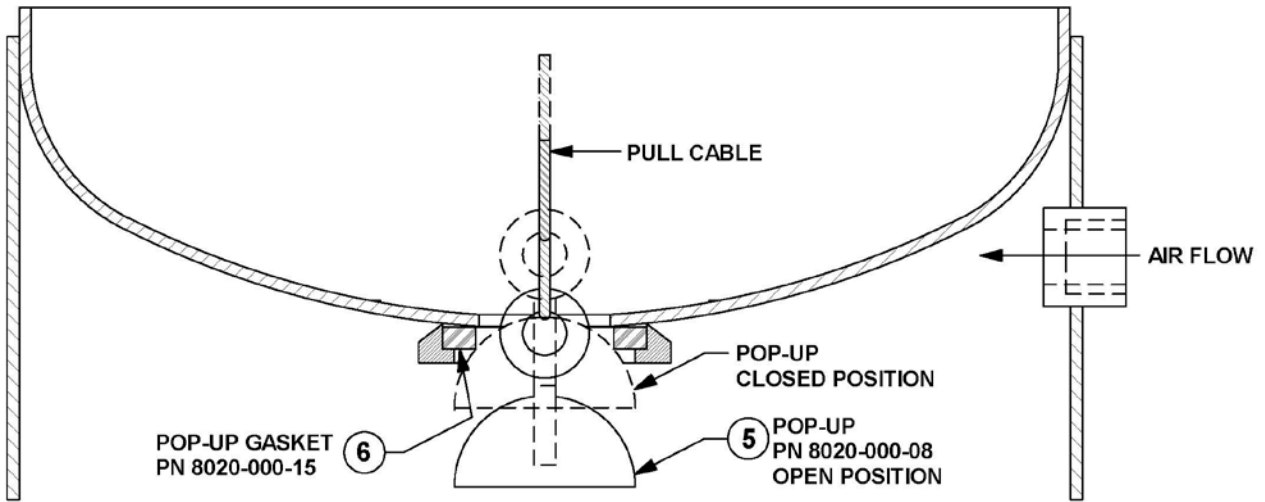

Figure 8.1 – Mini Blaster Manual Pop-up Assembly
- e) Pull the popup against the gasket and check for proper seating as shown in Figure 8.1.